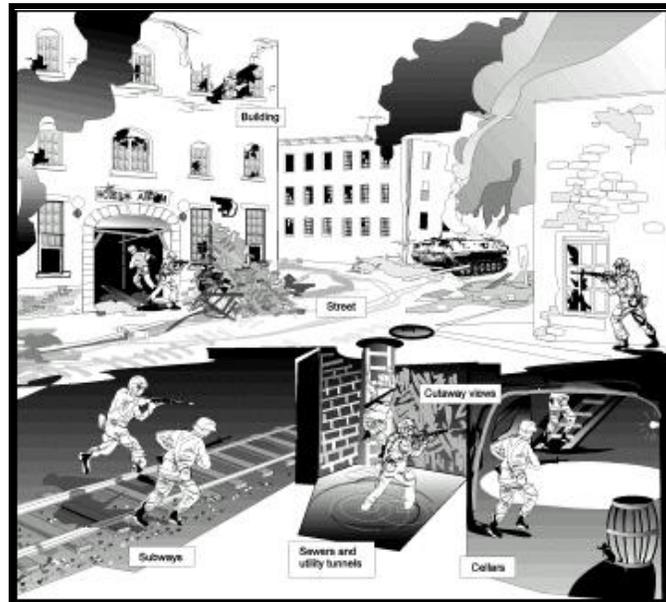

Figure 1. Underground systems.
- Subterranean systems found in some built-up areas can be easily overlooked, but they may prove critical to the outcome of urban operations. Figure 1 (page 88) illustrates examples of underground systems, which include subways, sewers, cellars, and utility systems.